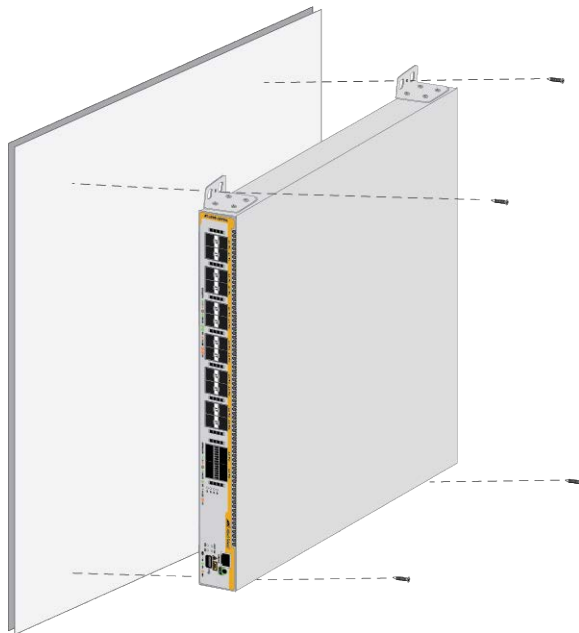

Figure 22. Installing the Switch to the Wall
8. Have two people hold the switch back to the wall location, tighten the screws to secure the switch to the wall. See Figure 22.